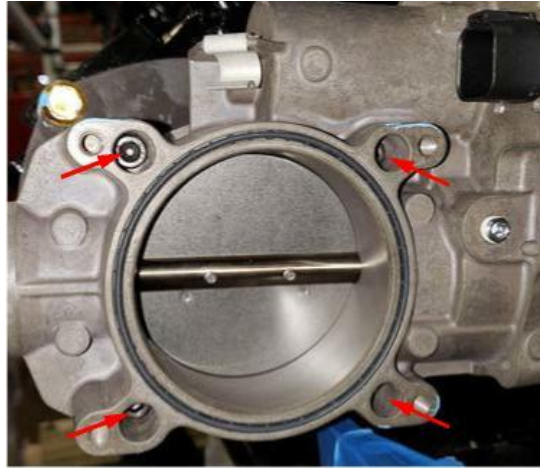

Figure 34
- d) Loosen the hardware securing the throttle body to the engine (as shown in Figure 34) and remove the throttle body. Make sure the O-ring from the throttle body does not stick to the inlet flange; if it does, remove it.